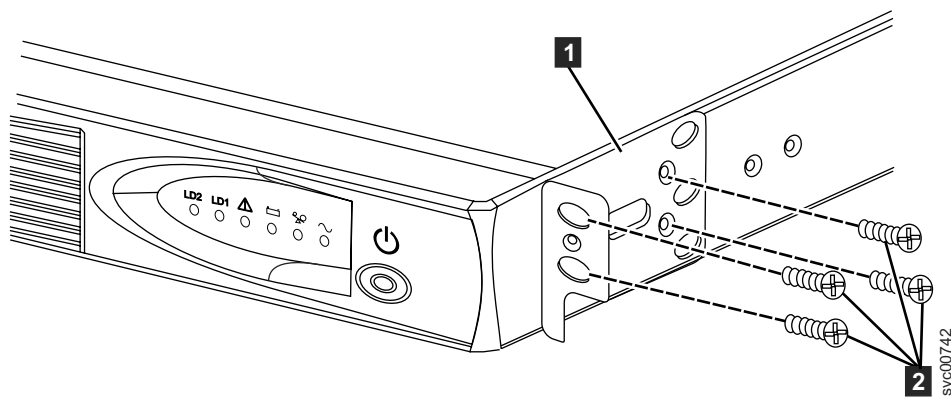

Figure 313. Installing the UPS mounting brackets for the 2145 UPS-1U
2. On each side of the 2145 UPS-1U, attach the long end of a mounting bracket to the 2145 UPS-1U using four of the supplied M3 × 6 screws (**2** in Figure 313).